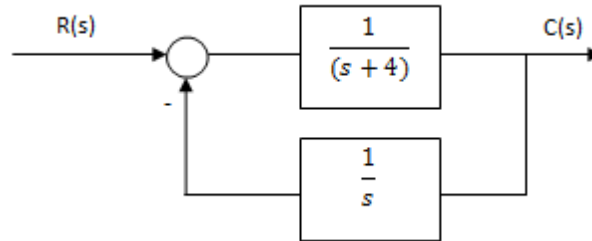

Figure 4
8) For the system shown in Figure 4. **Determine:**